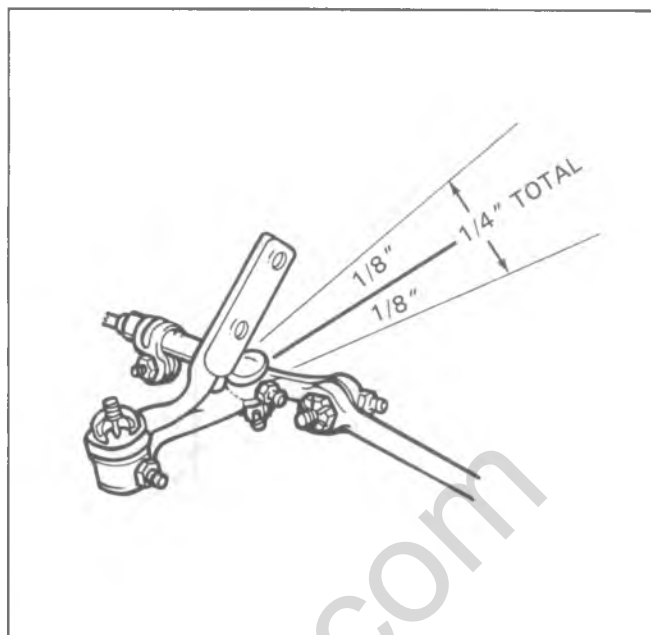

Fig. 3B1-10--Checking Idler Movement, Typical
2. Using a push pull type spring scale located as near the relay rod end of the idler arm as possible, exert a 25 lb. force upward and then downward while noticing the total distance the end of the arm moves. This distance should not exceed $\pm 1/8$ inch for a total acceptable movement of 1/4 inch (Figure 3B1-10). It is necessary to ensure that the correct load is applied to the arm since it will move more when higher loads are applied. It is also necessary that a scale or ruler be rested against the frame and used to determine the amount of movement since observers tend to over-estimate the actual movement when a scale is not used. The idler arm should always be replaced if it fails this test.